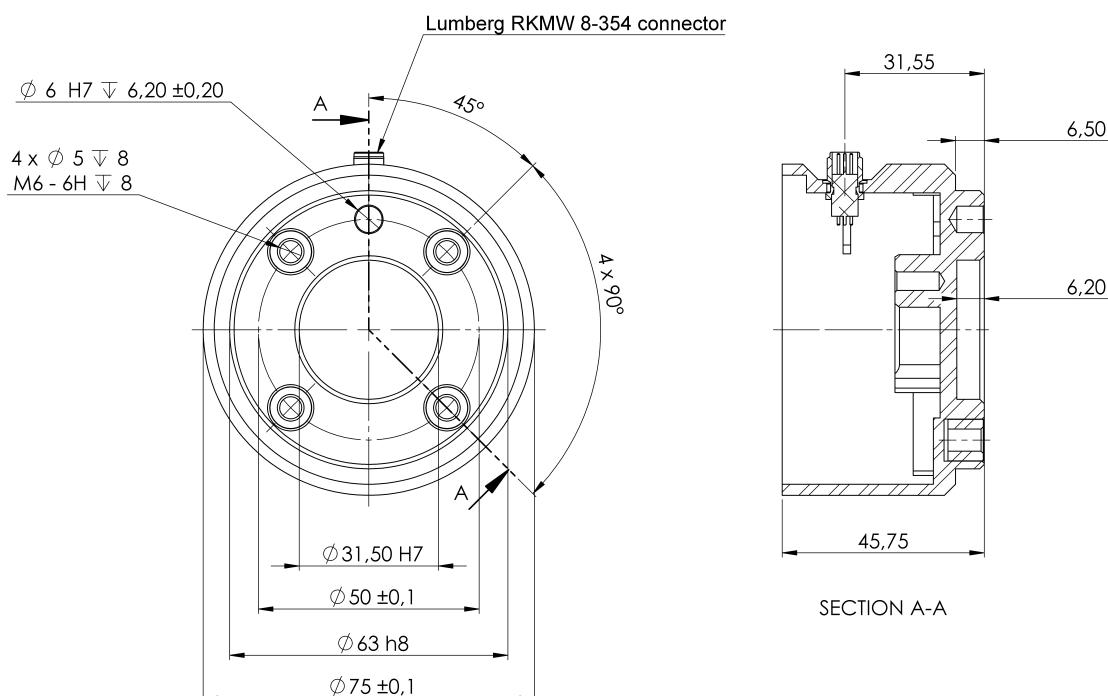

Figure 4.2: The tool output flange (ISO 9409-1-50-4-M6) is where the tool is mounted at the tip of the robot. All measures are in mm.
**Tool** The robot tool flange has four M6 thread holes for attaching a tool to the robot. The M6 bolts must be tightened with 8 N m, strength class 8.8. For accurate tool repositioning, use a pin in the  $\phi 6$  hole provided. Figure 4.2 shows dimensions and hole pattern of the tool flange. It is recommended to use a radially slotted hole for the pin to avoid over-constraining, while keeping precise position. Do not use bolts that extend beyond 8mm to mount the tool. Very long M6 bolts can press against the bottom of the tool flange and short circuit the robot.